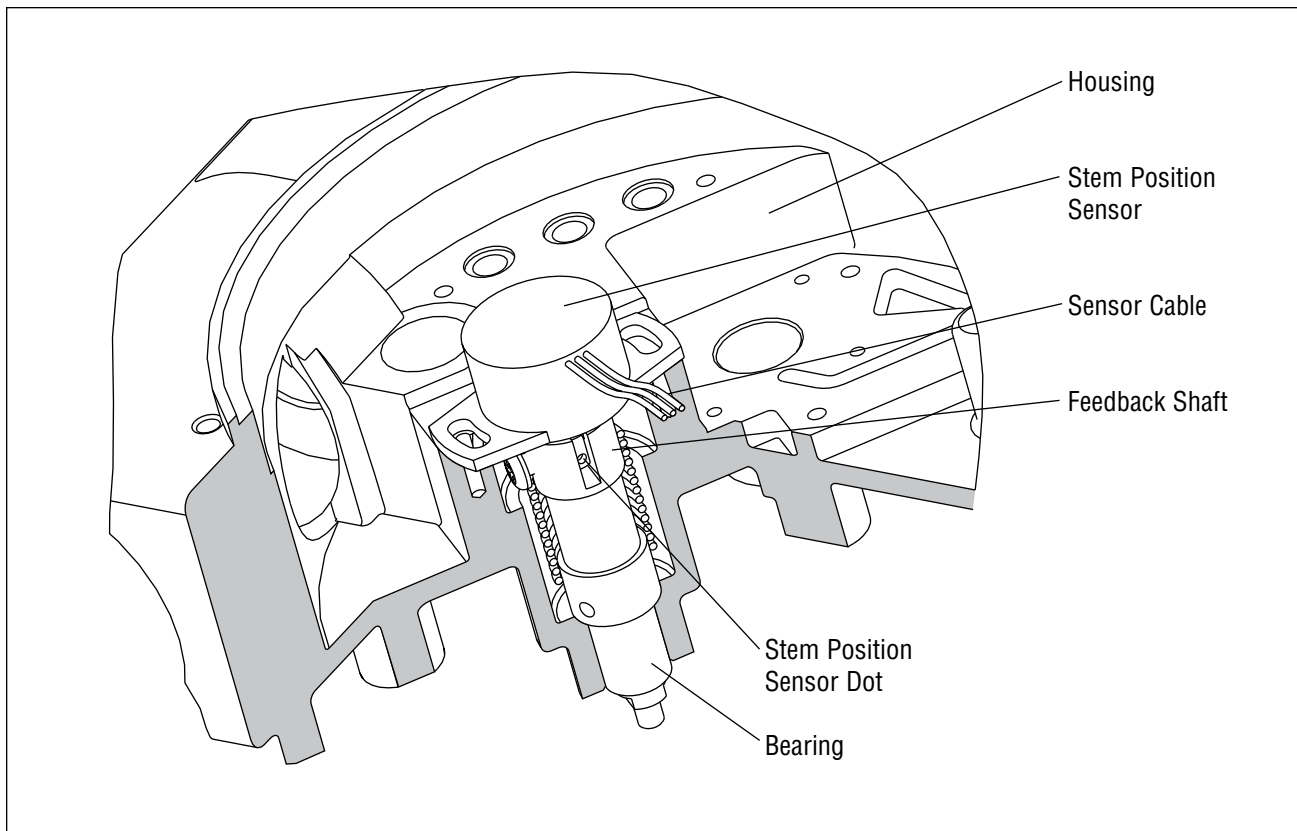

Figure 15: Stem Position Sensor Orientation
Stem Position Sensor Replacement (Figures 15, 19)
5. Turn position sensor shaft until the dot on the slot is oriented with the wires on the pot (Figure 15).
after a stroke calibration, loosen the feedback sensor mounting screws as shown in Figure 15. Turn the stem position sensor slowly while watching the LED indicators. Try small movements, both clockwise and counter-clockwise. If the yellow LED begins to blink, the feedback sensor has been correctly moved into range. Tighten the feedback sensor mounting screws and repeat the Quick-Cal procedure. If the LED remains red even after moving the full length of the sensor slot, verify the following items: *LIN_VALV/ROT_VALV* DIP switch setting, stem clamp and take-off arm height.